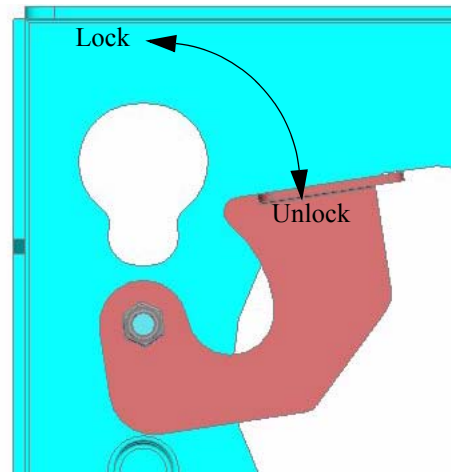

Figure 3. Locking Device
1. Make sure no power is supplied to the display and the locking device is in the unlocked (down) position (see Figure 3) before attempting to mount the display.
4. Secure the mounting bracket to the PDS by completely engaging the locking device (see Figure 3).
2. Release the locking device (see Figure 3).